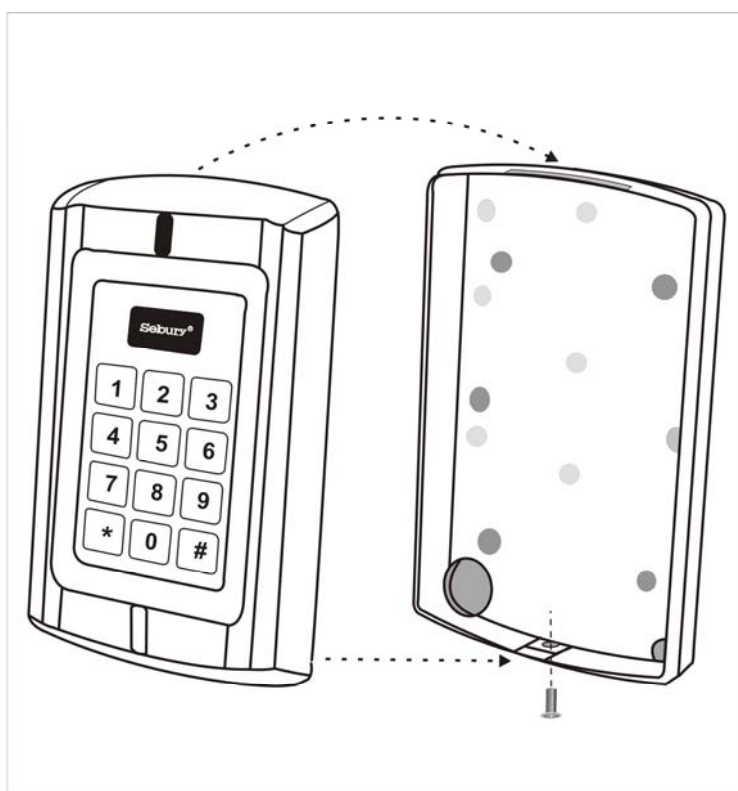

Figure 3
4. Attach the front cover, (See Figure 3).